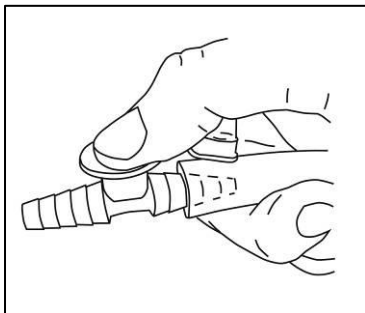

Fig. 24
3. Perform the aspiration procedure as you were instructed by the specialised personnel. You can perform fine adjustments of the set flow rate via the additional air opening on the fingertip (Fig. 24).